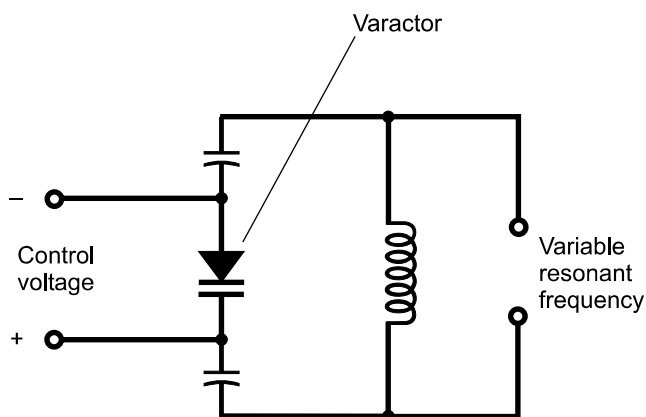

Fig. 5-13. A variable inductance-capacitance (LC) tuned circuit using a varactor.
The varactor diode is used in a *voltage-controlled oscillator* (VCO). A parallel voltage-tuned inductor/capacitor (LC) circuit using a varactor is shown in Fig. 5-13. As the voltage across the diode varies, so does its capacitance; this affects the resonant frequency of the LC circuit, and therefore the frequency at which the oscillator produces a signal. The fixed capacitors, whose values are large compared with that of the varactor, prevent the coil from short-circuiting the control voltage across the varactor.